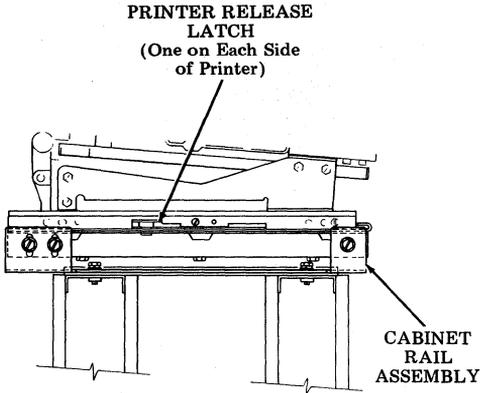

Fig. 8
- (e) Lift printer release latches (Fig. 8) and slide printer forward (approximately 1/2-inch).